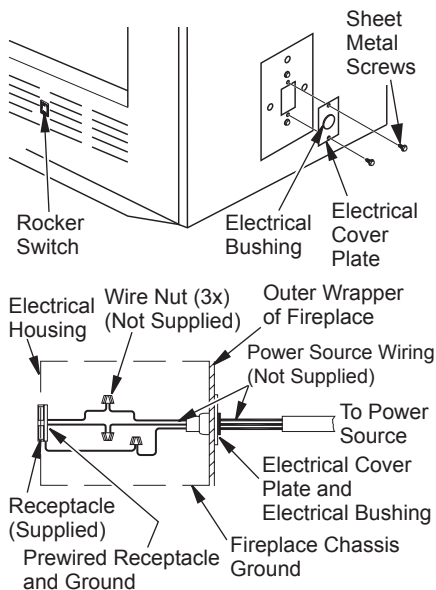

Figure 11 - Fan Switch-Electrical Bushing
1. Remove electrical cover plate with bushing from fireplace by removing 2 sheet metal screws as shown in Figure 11, page 13.
3. Slide all wiring connections in electrical housing as shown in Figure 11, page 13.